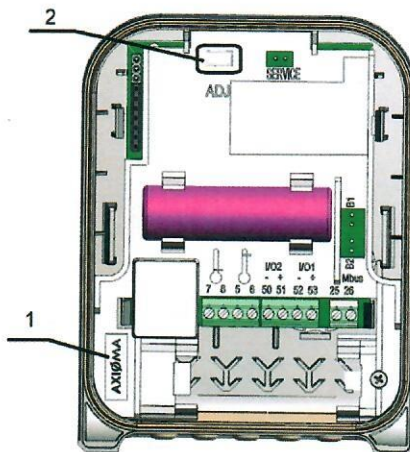

Fig.7. Additional sealing of the combined device calculator
For the combined device, additional metrological seals shall be used to seal access to the protective cap mounting screw (Fig. 7, pos. 1) and the activation contacts for the adjustment data if the protective screen (Fig. 7, pos. 2) has been broken.